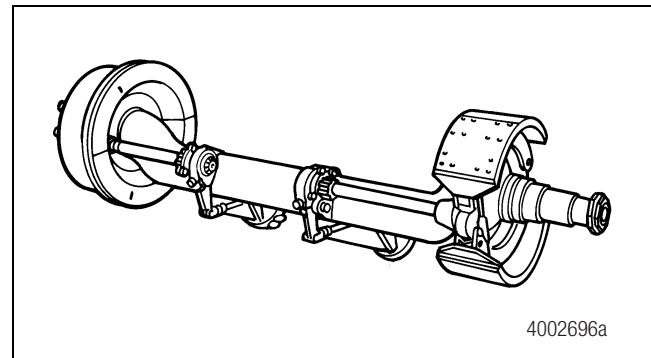

Figure 2.2
- Crank beams, such as the TQC model. Figure 2.2.